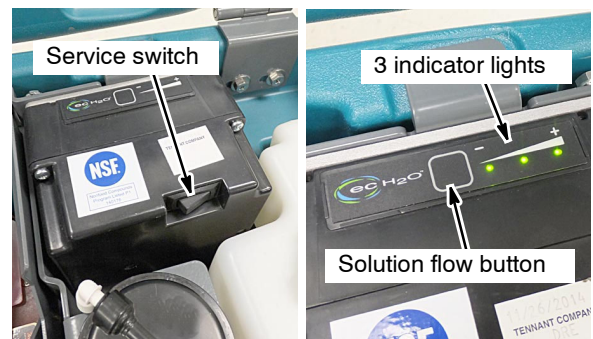

FIG. 99
- b. Press and hold the service switch, located on the ec-H2O module, for 10 seconds. After releasing service switch, the three solution flow indicator lights will begin to (ripple) move back and forth (Figure 99).
- c. Within 5 seconds after releasing the service switch, while the three indicator lights are moving back and forth, quickly press and release the solution flow button located on ec-H2O module (Figure 99).